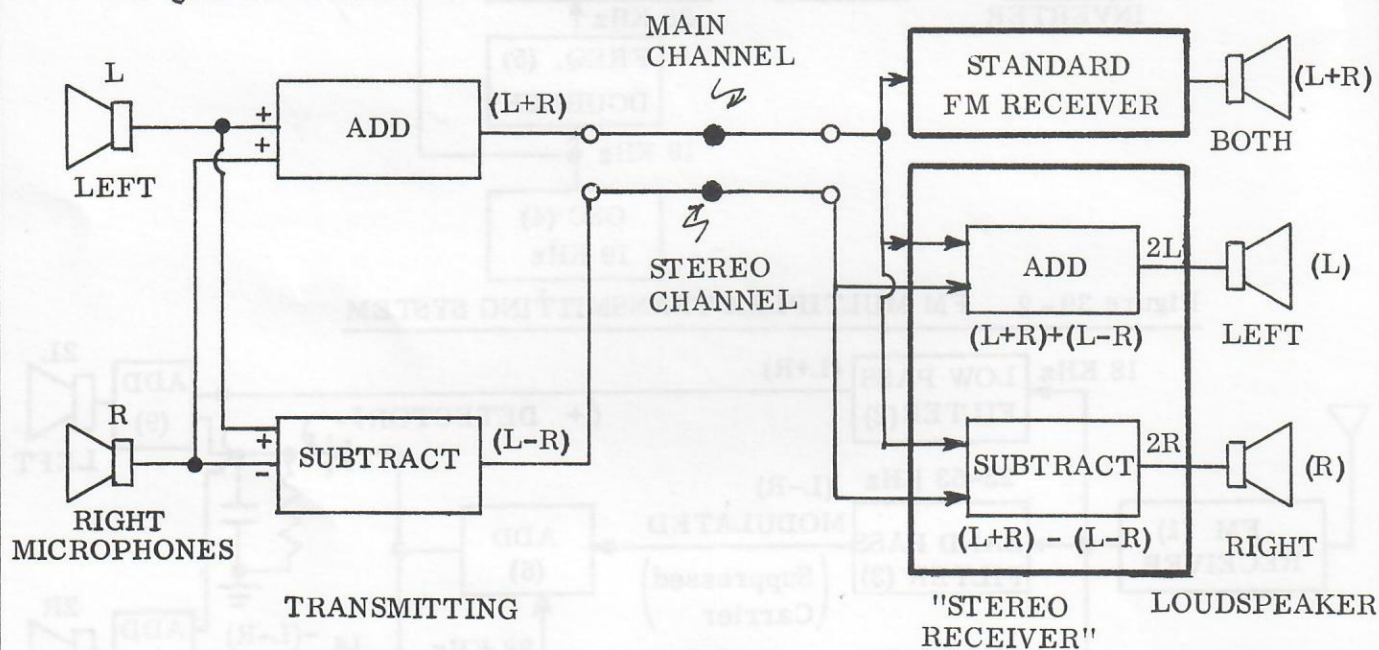

Figure 39-4 Stereo System Block Diagram
The voice or sound spectrum for good high-fidelity is shown in section (A) in Figure 39-1 as ranging from 50 Hz to 15 KHz. This corresponds to the standard FM audio spectrum. When two channels, Left and Right, (L and R) are used, it is necessary that the system should be received by a standard "monoral" or single channel radio. The overall transmitter-receiver system used is then as illustrated in Figure 39-4 below:
The L and R channels are ADDED to result in a standard complete Audio that can be received by a standard FM radio receiver. The L and R channels are also SUBTRACTED resulting in another channel. The Stereo Receiver adds the two channels to obtain the LEFT sound, and subtracts the two channels to obtain the RIGHT sound as indicated in Figure 39-4.